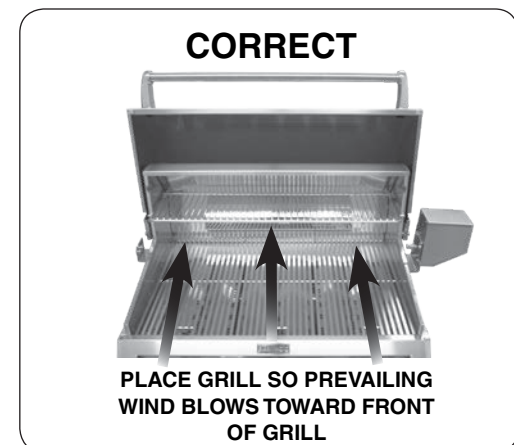
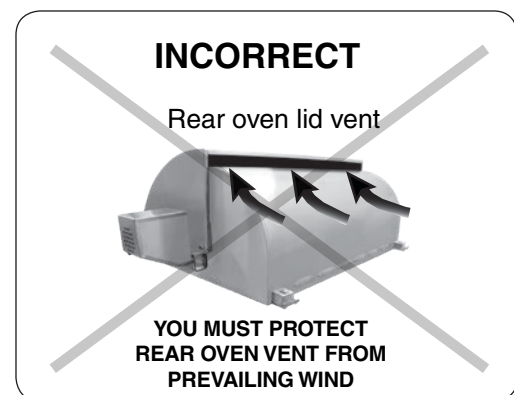

Fig. 12-3 Airflow direction - CORRECT
Fig. 12-4 Airflow direction - INCORRECT
**CAUTION:** Wind blowing into or across the rear oven lid vent (Fig. 12-4) can cause poor performance and/or dangerous overheating. Install the grill so that the prevailing wind blows toward the front of the grill (Fig. 12-3). **A wind deflector is available for purchase to assist in proper airflow during windy conditions.** See Table 1 for model numbers. Follow the instructions included with the wind deflector for installation.